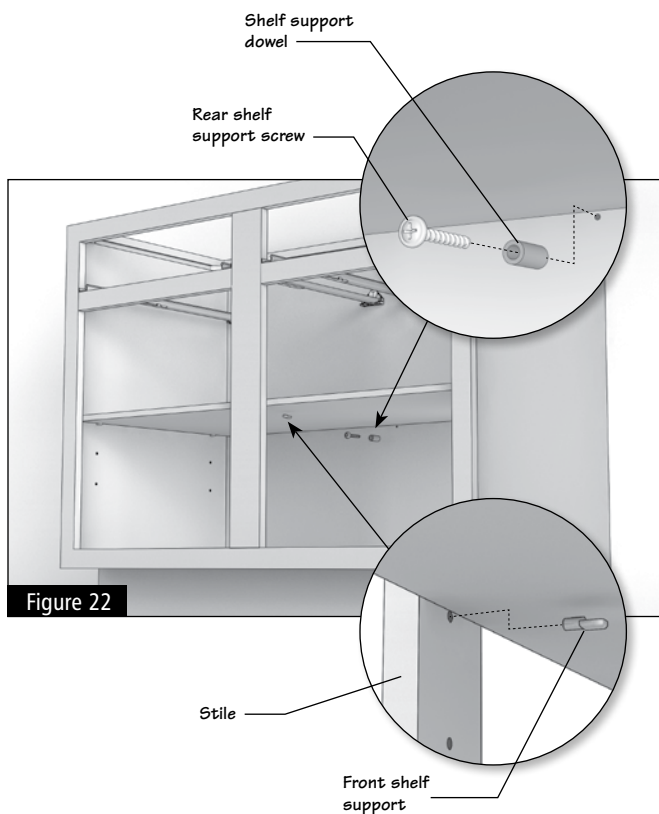

Figure 22
**8.2** Install shelves by placing the shelf supports into the holes on both sides of the cabinet, push in completely and turn until the flat side rests upward and place the shelves into position. On wide cabinets, you will also need to insert a shelf rest on the back wall and front stile of the cabinet for added stability using the kit enclosed with the cabinet. (Figure 22)